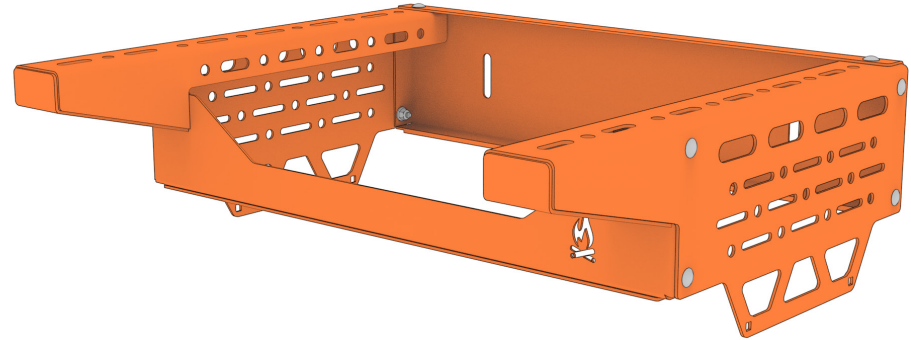

FIG 7
2.3 Attach Front Panel: Repeat previous step for the **Front Panel** (FIG 7).